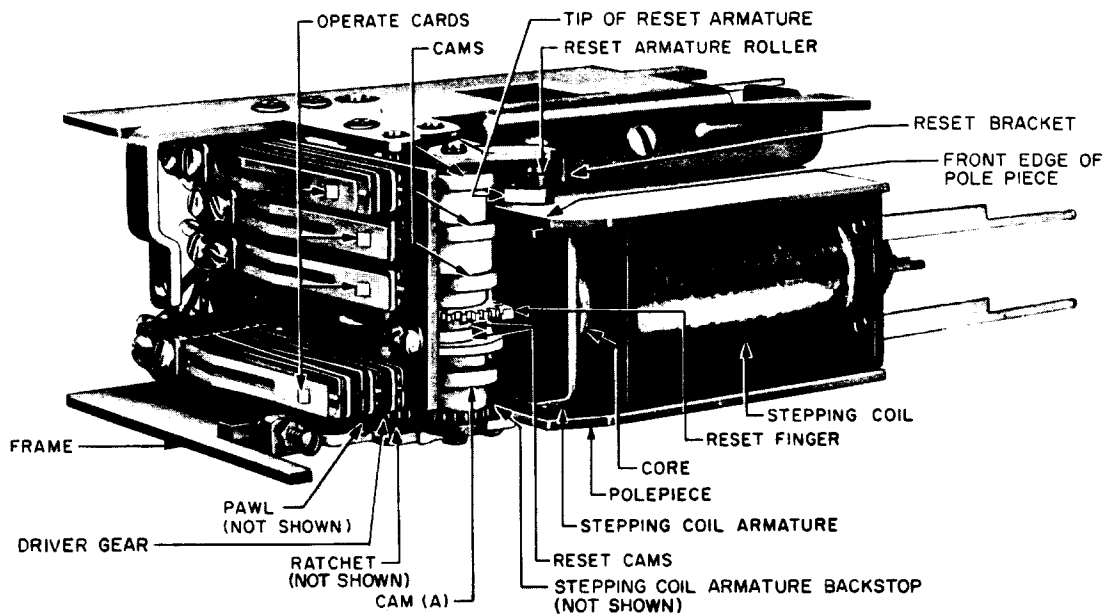

Fig. 1 - 3-Type Counter — Right Side View (cover removed)
(a) **Stepping Coil**: Fig. 1 — The stepping coil is considered to operate if, when current is connected to the windings, the arma-
ture moves sufficiently towards the core to rotate the bottom cam [Fig. 1(A)] approximately 18 degrees from its initial or reset position. The most severe test usually occurs with pulse 1 and pulse 21, 41, 61, 81, or 101, depending on the individual codes. A pulse is defined as a single application of current to the winding.
(a) **Stepping Coil**: Fig. 1 — The stepping coil is considered to release if, when current is disconnected from the coil, the armature moves from the frontstop or core to the backstop.
Fig. 1 and 2 — The stepping coil and reset coil armatures shall be free to operate and re-
**\*φ2.13 Clearance Between Armature and Pole Piece:** Fig. 1 and 2 — There shall be perceptible clearance between each armature and pole piece when the armature is in its electrically operated position.
Fig. 1 — With the reset armature in the unoperated position and all cards off the cams, the force required at the tip of the reset armature to move the reset bracket shall be